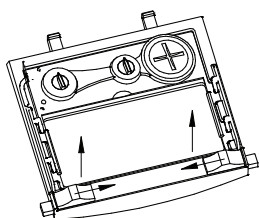
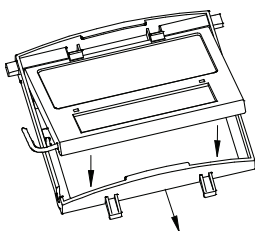

Figure 1
Figure 2
**Replacing Front Clear Cover Lens:** Replace the front cover lens if it is damaged. Remove ADF holder assembly per Figure 1. Remove front cover lens from helmet assembly. Carefully remove gasket from cover lens. Install new cover lens into gasket and assemble to helmet shell. Make sure to assemble cover lens and gasket into helmet shell the same way as it was removed.
**Replacing Inside Clear Lens:** Replace the inside clear lens if it is damaged. Remove ADF holder assembly per Figure 1. Remove shade cartridge from ADF holder. Place your fingernail in recess above cartridge view window and flex lens upwards until it releases from edges of cartridge view window.
**Change the Shade Cartridge:** Remove ADF holder assembly from helmet shell. See figure 1 for removal. Flex top end of the ADF holder to allow for ADF cartridge to be removed from frame. Install new ADF cartridge into frame per figure 2 below. Make sure that the ADF cartridge is inserted in ADF holder correctly as shown. Install ADF holder assembly into helmet shell.